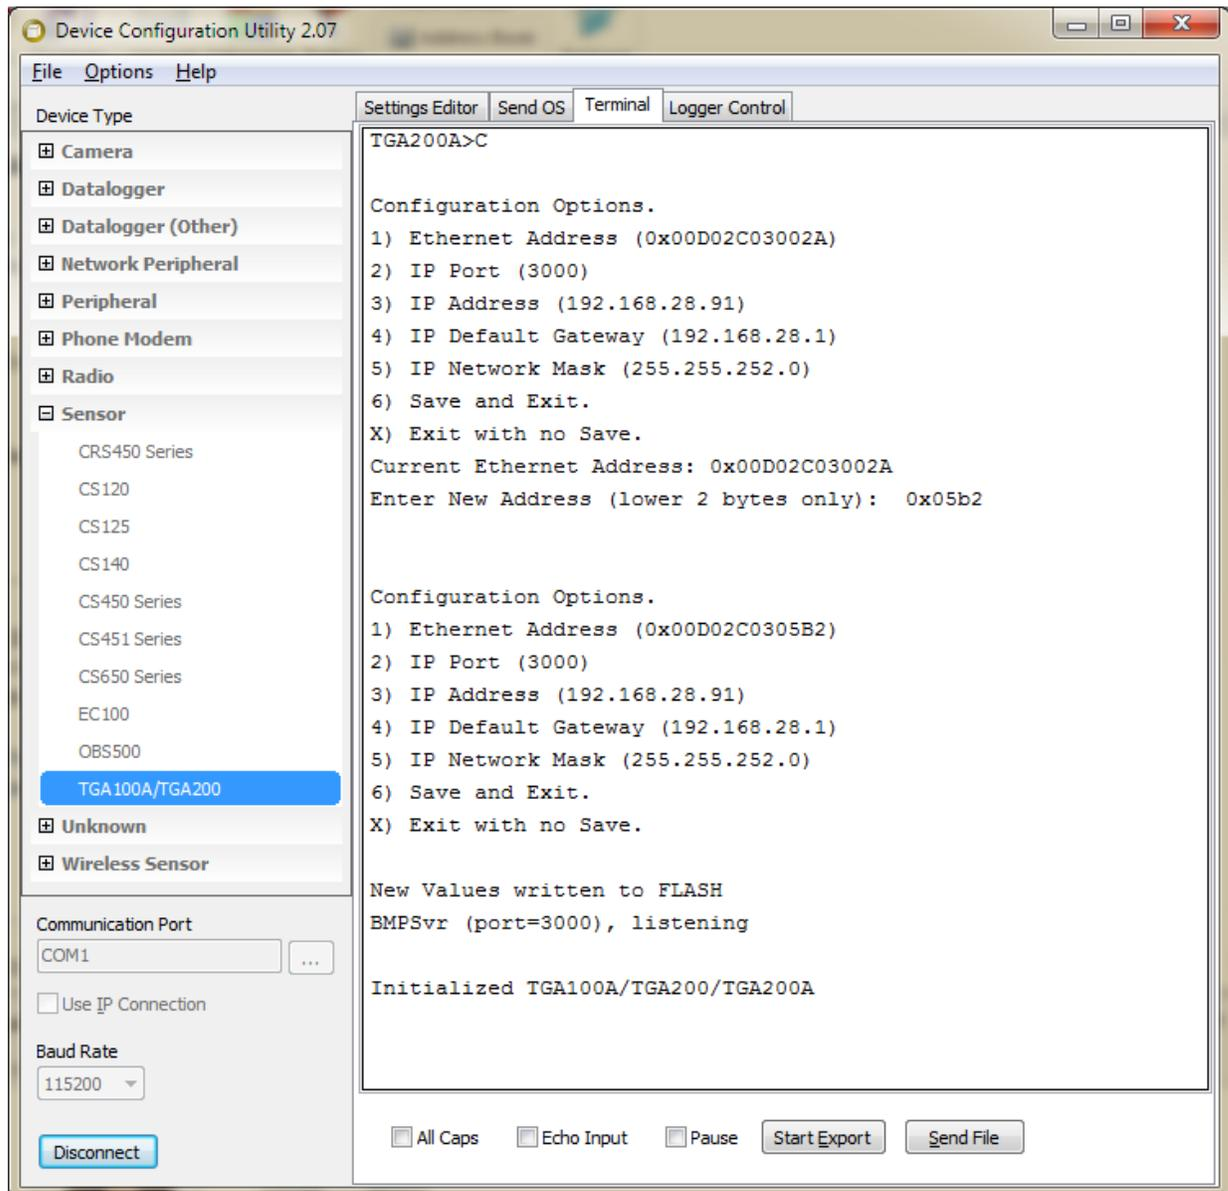

FIGURE 6-20. Device configuration utility Terminal tab
- Select *Terminal* mode and then uncheck the **All Caps** box at the bottom of the window as shown in in FIGURE 6-20.